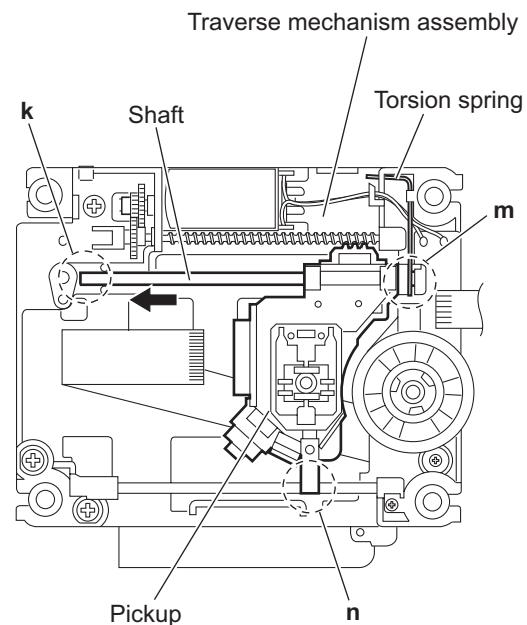

Fig.7
- (6) Remove the shaft of the pickup from the section **k** on the traverse mechanism assembly and remove the shaft from the section **m** while moving it in the direction of the arrow. (See Fig.7.)
- (7) Remove the pickup from the section **n** of the traverse mechanism assembly and take out the pickup with the shaft. (See fig.7.)
- (2) Align the pickup to the section **n** of the traverse mechanism assembly first and set the both ends of the shaft of the pickup in the sections (**k**, **m**) of the traverse mechanism assembly. (See Fig.7.)
When attaching the shaft to the section **m**, attach it under the torsion spring. (See Fig.7.)